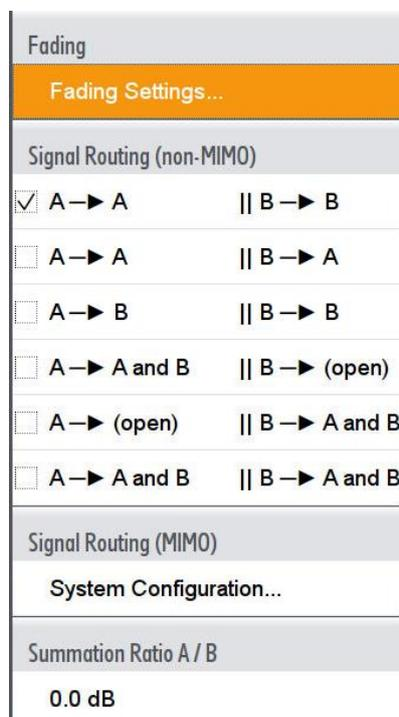

Fig. 3-14: Fading Settings
1. Click on the block **Fading** and **Fading Settings** (Fig. 3-14)